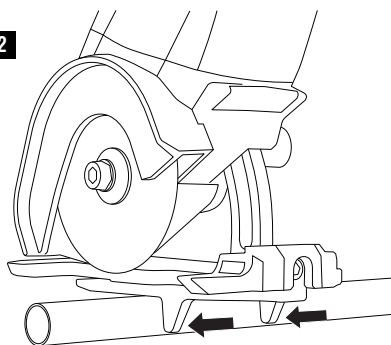

FIG. 22
3. Place both tabs of attachment against clamped work piece before starting tool as shown in figure 22.